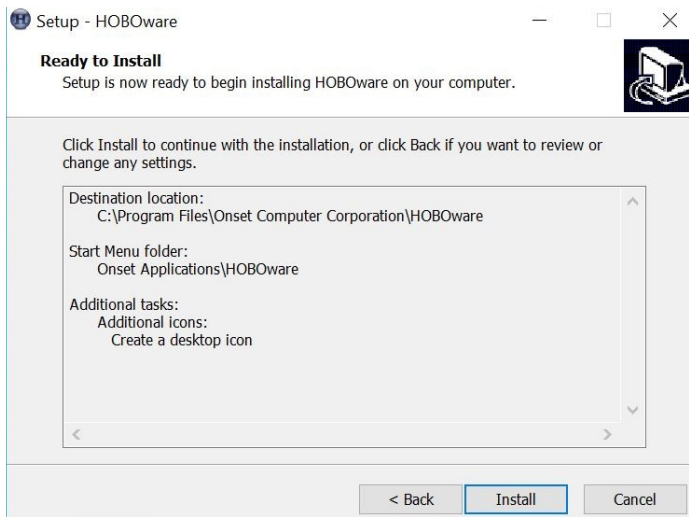
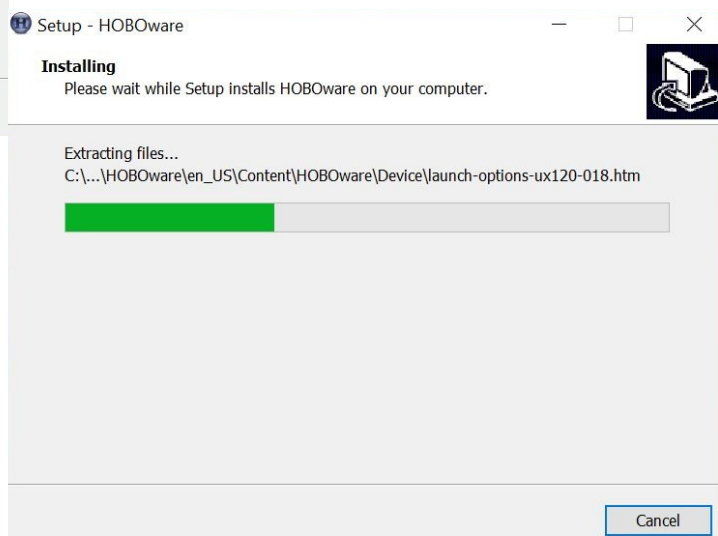

Figure 17. Ready to install
Figure 18. Installing files window
7. The next window (Fig. 17) will ask you to install, you can click INSTALL. The program will now begin installing (Fig. 18).